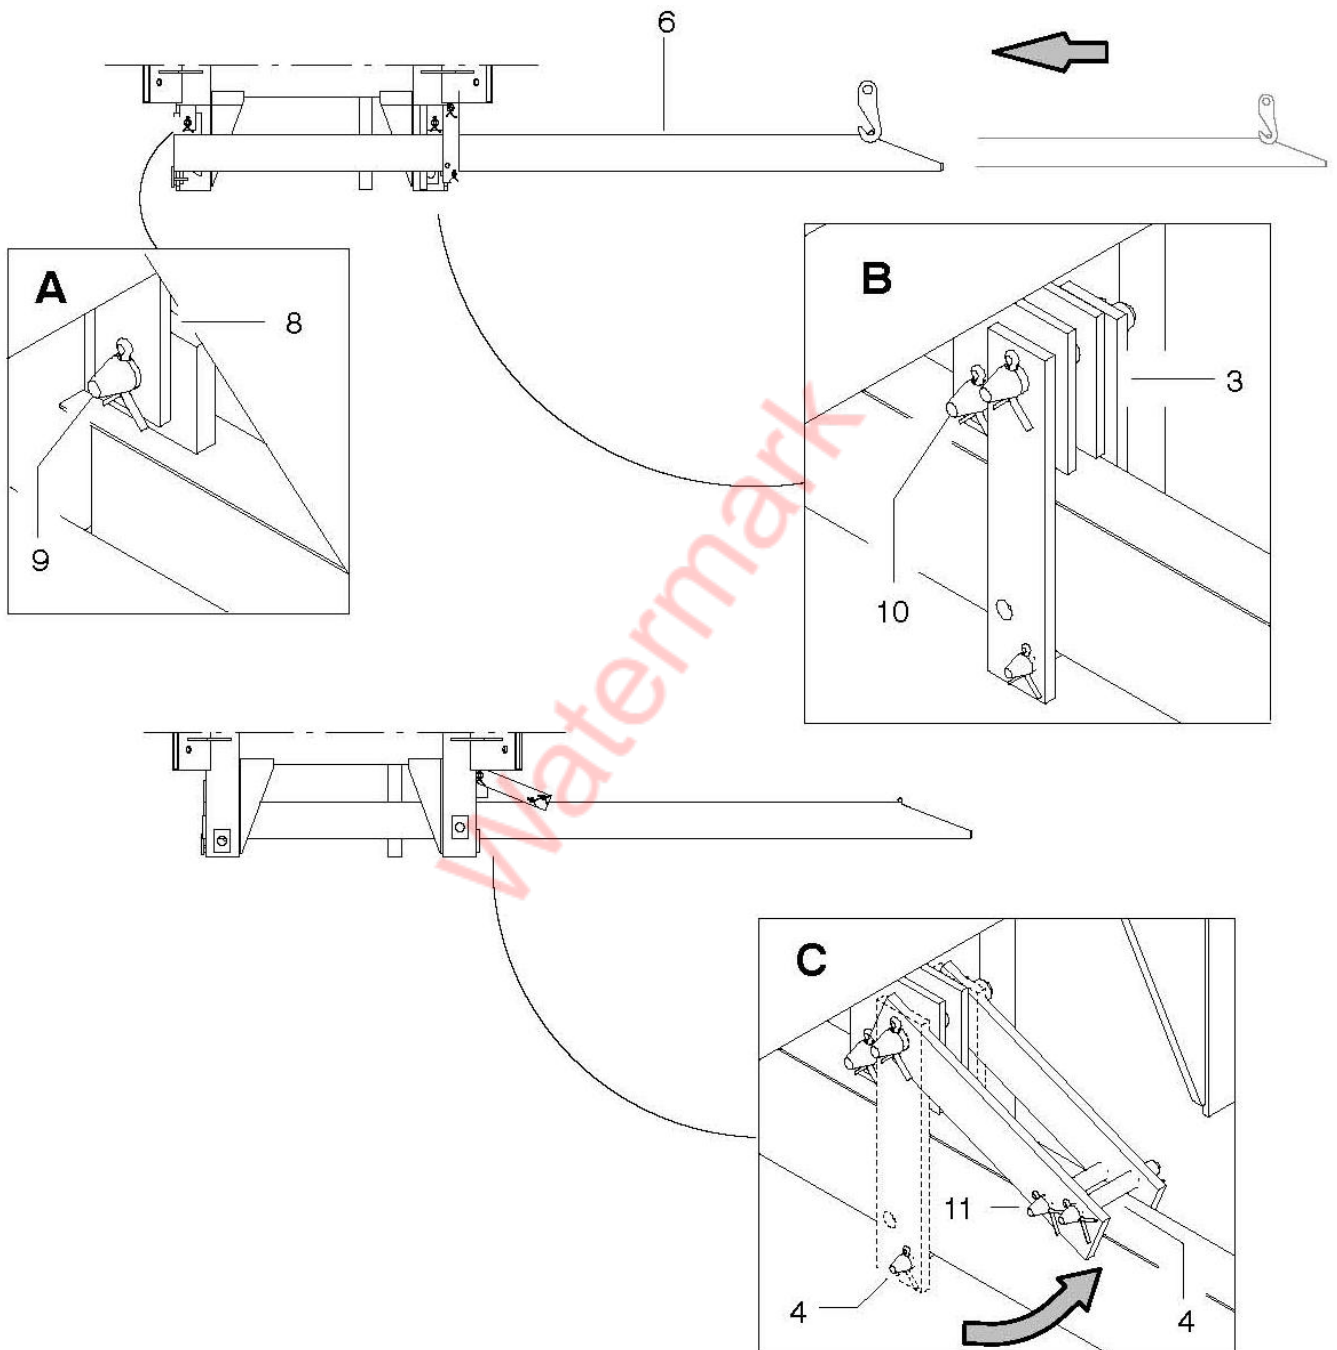

Figure 2
_ Operate “Trolley in” until the monorail (6) can be pinned to the gussets (8) by means of the shaft (9) (Detail A – Figure 2), then to the gussets (3) by means of the shaft (10) (Detail B – Figure 2).
_ Remove the shaft (4), then raise the plates (1) and refit the shaft (4) as well as the shaft (11) (Detail C – Figure 2).